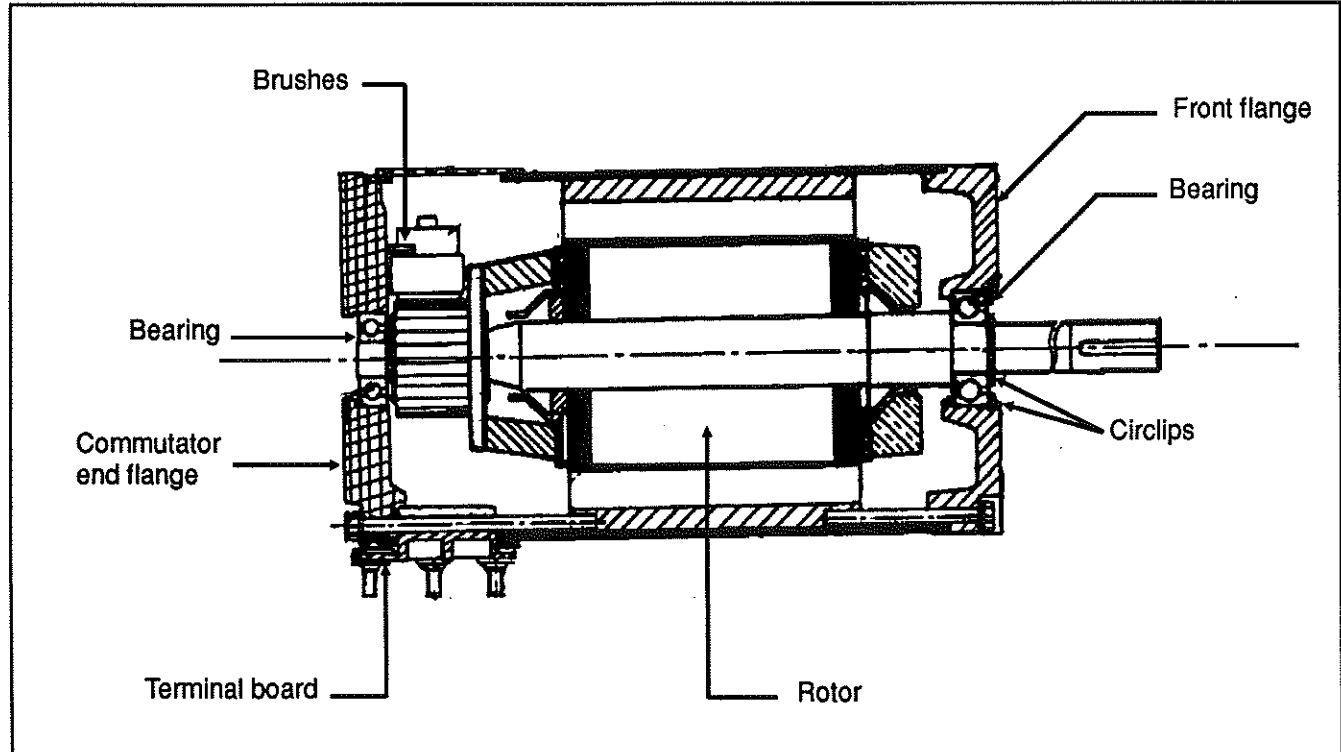

FIG. 16
2. Unscrew the flange retaining screws on the shaft end side (opposite to the commutator end frame), and separate flange from frame (see fig. 16).